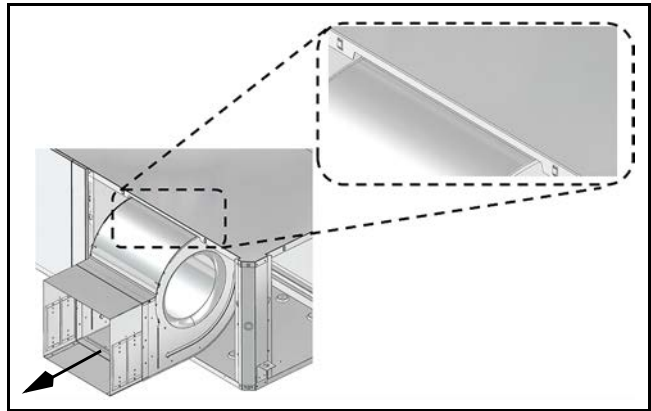

Fig. 17
8. Remove the blower assembly by sliding it forward. (See Fig. 17.)